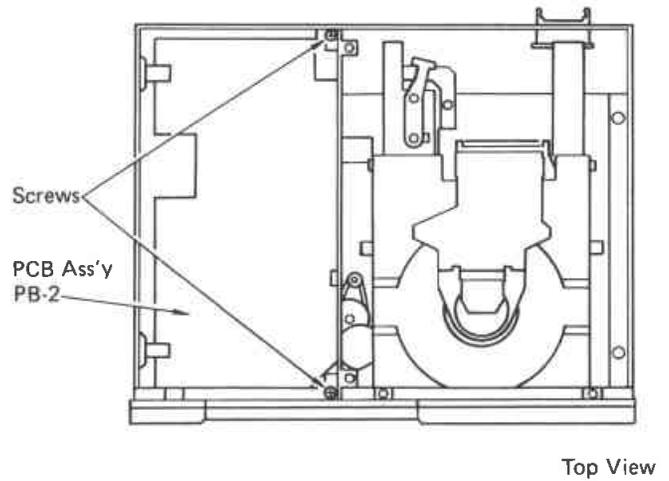

Fig. 3
- 1) Remove two screws, fixing PCB PB-2 to the chassis. (Fig. 3)